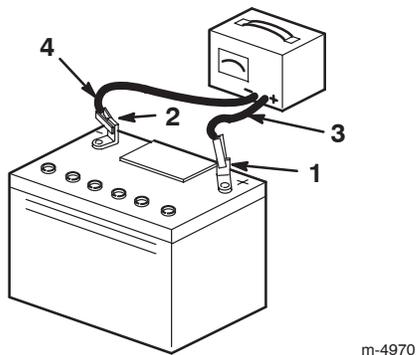

Figure 20
5. Disconnect the charger leads from the battery posts (Fig. 20).